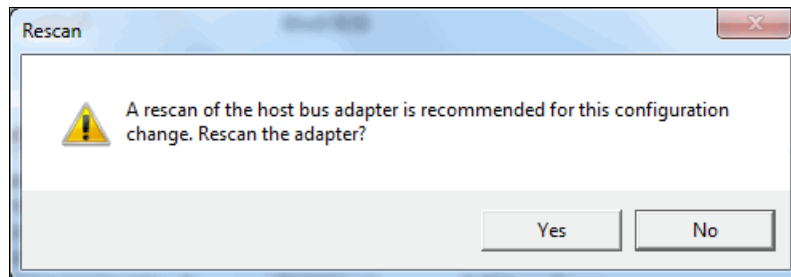

Figure 4-27 Rescan the iSCSI Software Adapter
16. The window shown in Figure 4-27 should open. Click **Yes** to rescan the adapter and complete this procedure.